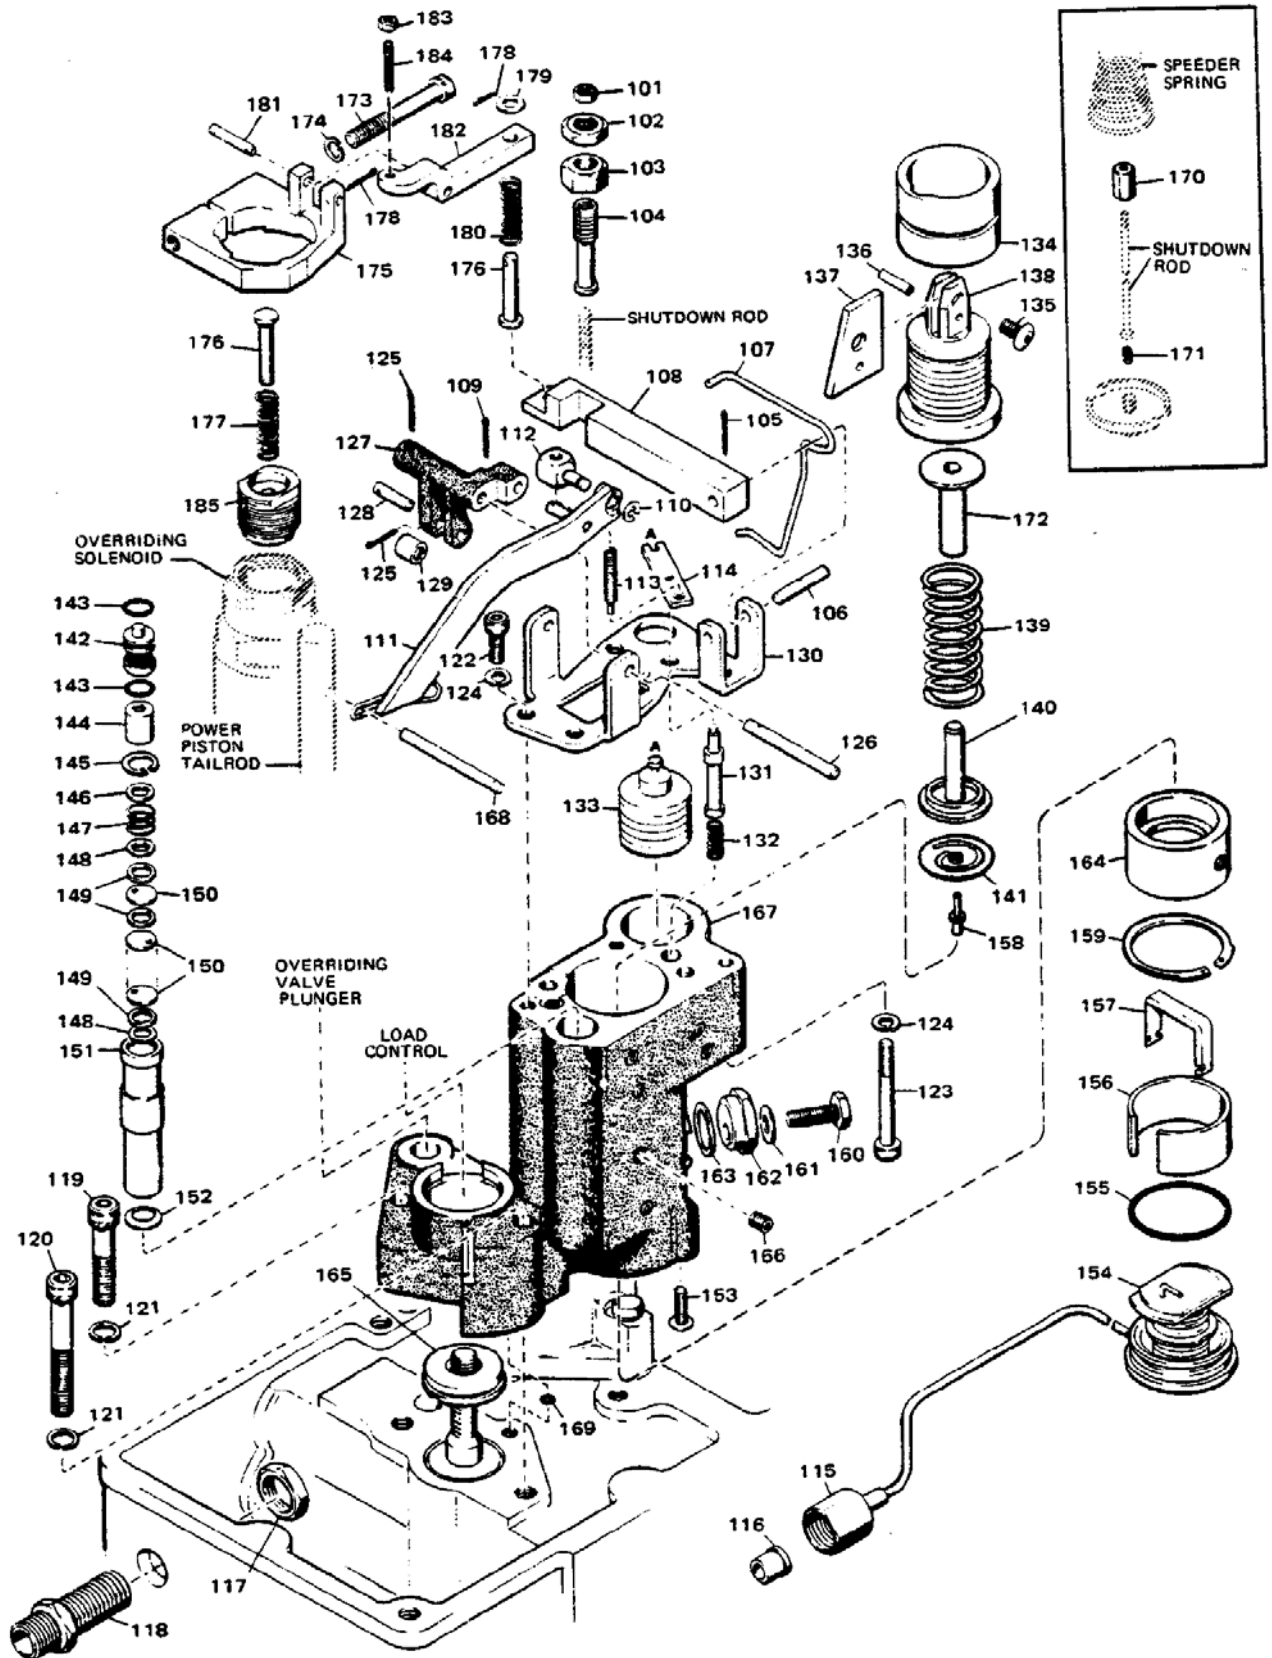

Figure 4-4. Exploded View of Fuel Limiter and Optional Load Control Override Linkage
1. Remove component parts of governor load control valve from sensor housing (167, Figure 4-4).
5. Remove fuel limit floating lever and attaching parts (109, 110, and 111). Hold pivot (112) stationary while removing lever and then remove pivot together with adjusting screw (113). Remove feedback lever (114).
6. Disconnect coupling nut (115) and then back fitting (118) out of governor column far enough to clear end of connecting tube from sensor bellows (154). Do not bend or otherwise place any strain on tube during removal of the sensor assembly.
7. Remove screws (119 and 120) and washers (1 sensor assembly (122 through 167) off column. Remove O-ring (169) from seat in governor column.
8. Disassemble sensor assembly in the order of the reference numbers assigned to Figure 4-4.
9. Cylinder head (165) is a press fit with housing (167).
5. Inspect sensor piston (138, Figure 4-4), amplifier piston (133) and amplifier pilot valve plunger (131) for scuffing, scoring, or wear. If scuffing or scoring is evident, inspect the respective piston or plunger bores for similar damage. Replace all parts which are scuffed or scored. Wear, in the form of highly polished areas, is generally acceptable if less than one-third the length of the piston or plunger land is affected. If excessive wear is suspected, check worn area for an out-of-round condition. Replace pistons if worn area is out-of-round more than 0.001 inch (0.02 mm). Replace plunger if worn areas on lands are out-of-round more than 0.0005 inch (0.013 mm).
9. Examine sensor bellows (154) for evidence of distortion, cracks or other damage. The longitudinal length of the bellows assembly, as measured on the bellows centerline without strap (157), and barometric pressure at time of factory assembly are marked on upper end of bellows. If this length has increased more than 0.015 inch (0.38 mm) at the specified barometric pressure, the evacuated bellows is leaking and the assembly must be replaced. Plug the MAP tube and immerse bellows assembly in hot water (200 °F/93 °C). If bubbles are observed, the sensing bellows is leaking and the assembly must be replaced.
10. Check needle bearing (129) for freedom of rotation. Replace bearing if there is any detectable roughness.
3. If orifice pack was disassembled for any reason, alternately install gaskets (149, Figure 4-4) and orifice plates (150). Make certain to install a gasket between orifice plate and washer at each end of stack. Plates must be alternated so that adjacent orifice holes are diametrically opposite.
The same parts ordering information as in Chapter 2 is required for ordering parts in Chapter 4. Use Figure 4-4 for the index numbers.